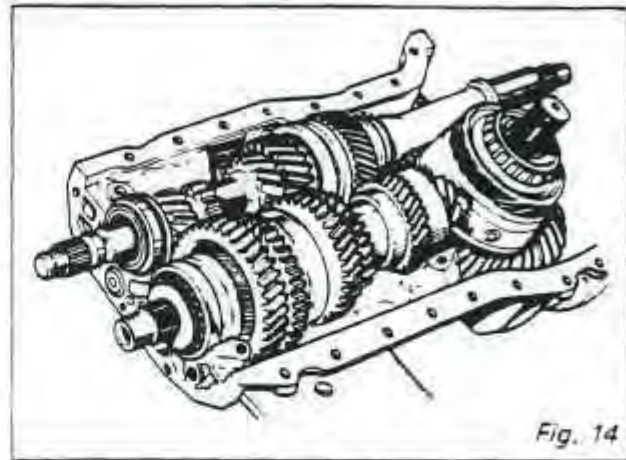

Fig. 14
13. Remove the differential assembly and lift out the primary and secondary shaft assemblies. (Fig. 14)